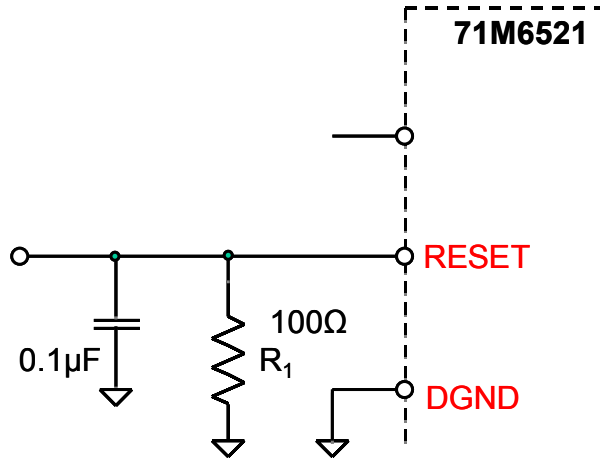

Figure 2: Reset Circuit for the 652X
- 2) **There must be a provision for a hardware reset, as shown in Figure 2, or for cycling power (including disruption of the battery power, if applicable).**